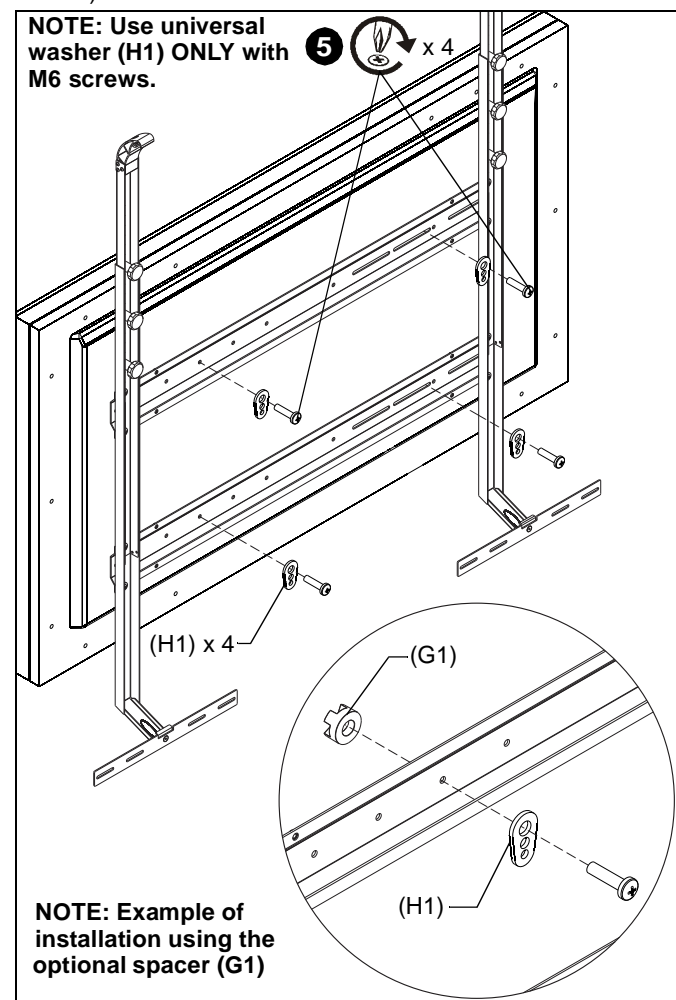

Figure 8
5. Attach flat panel to the uprights/cross brackets assembly through the cross brackets using selected hardware. (See Figure 8)